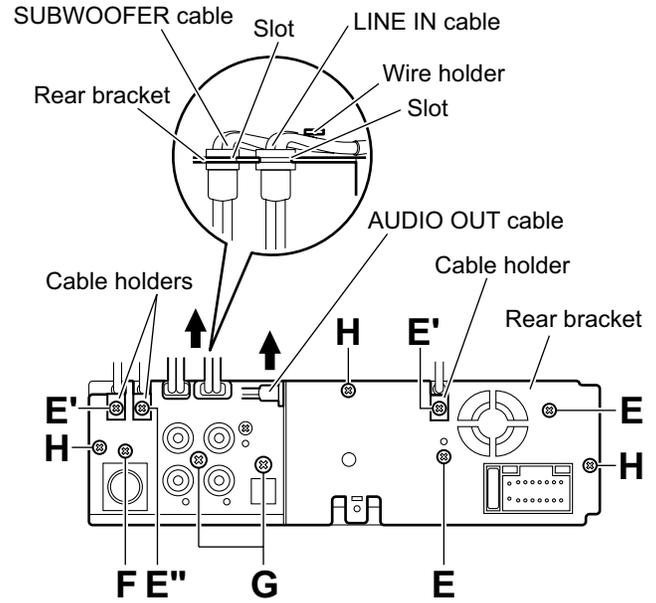

Fig.6
3.1.5 Removing the rear bracket (See Fig.6)
3.1.6 Removing the main board (See Figs.6 and 7)
- From the back side of the main body, remove the three screws **H** attaching the main board. (See Fig.6.)